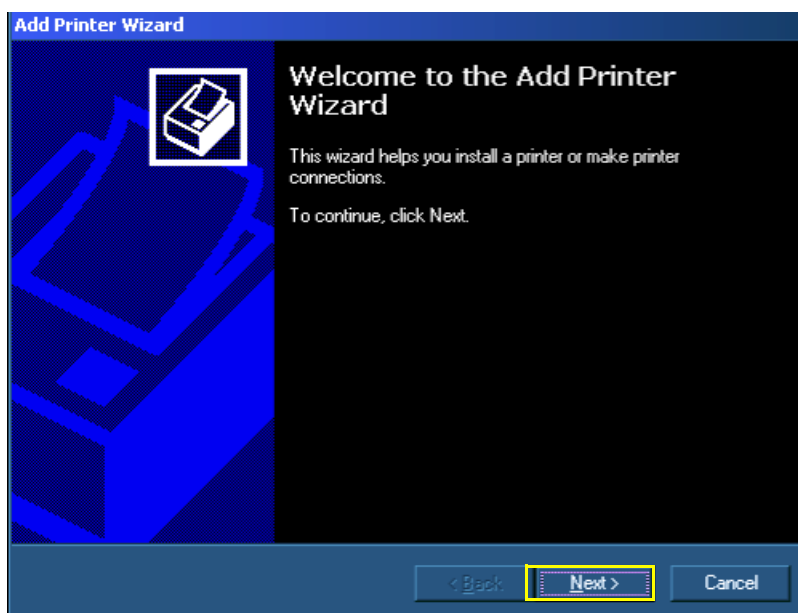

Figure 8-138 Add Printer Wizard
- 9.) When the *Add Printer Wizard* opens, click **Next** - see Figure 8-138.